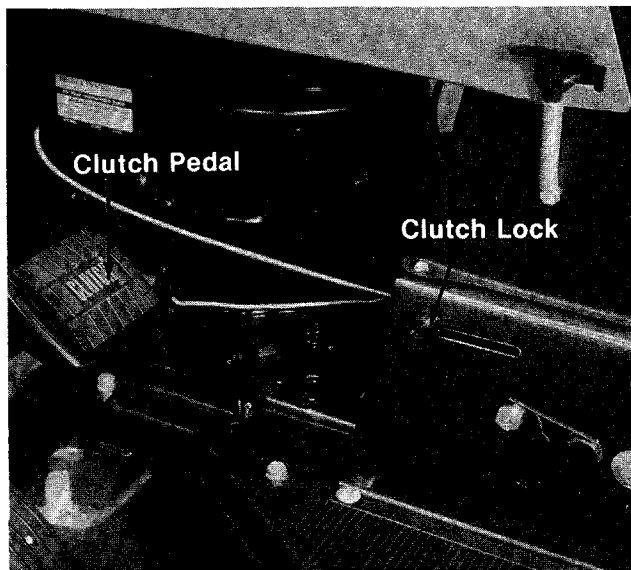

FIGURE 4.
The clutch pedal is located on the left side of the mower and is used to disengage the drive mechanism. Depressing the clutch pedal will disengage the engine from the drive train. The clutch pedal must be depressed when you come to a stop. See figure 4.
When the clutch pedal is depressed all the way, it can be locked by lifting up the lock button. The pedal will stay depressed. To release, depress the clutch pedal. See figure 4.
4. Depress the clutch pedal and lock it down with the clutch lock. See figure 4.